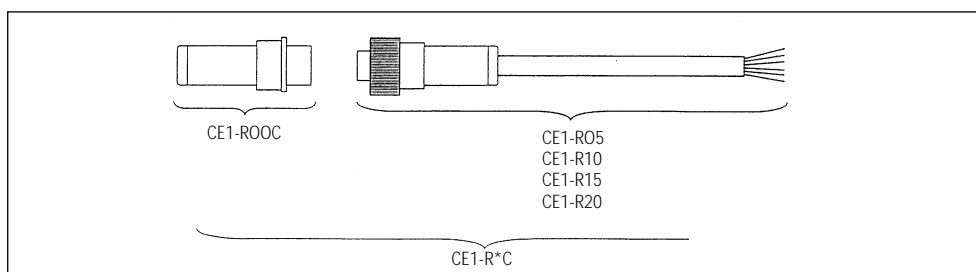

Fig 3
- If an extension cable is connected to the CEP1 without a connector, it will be necessary to mount a male connector on the cylinder side. Use a CE1-R\*C (see Fig 3).